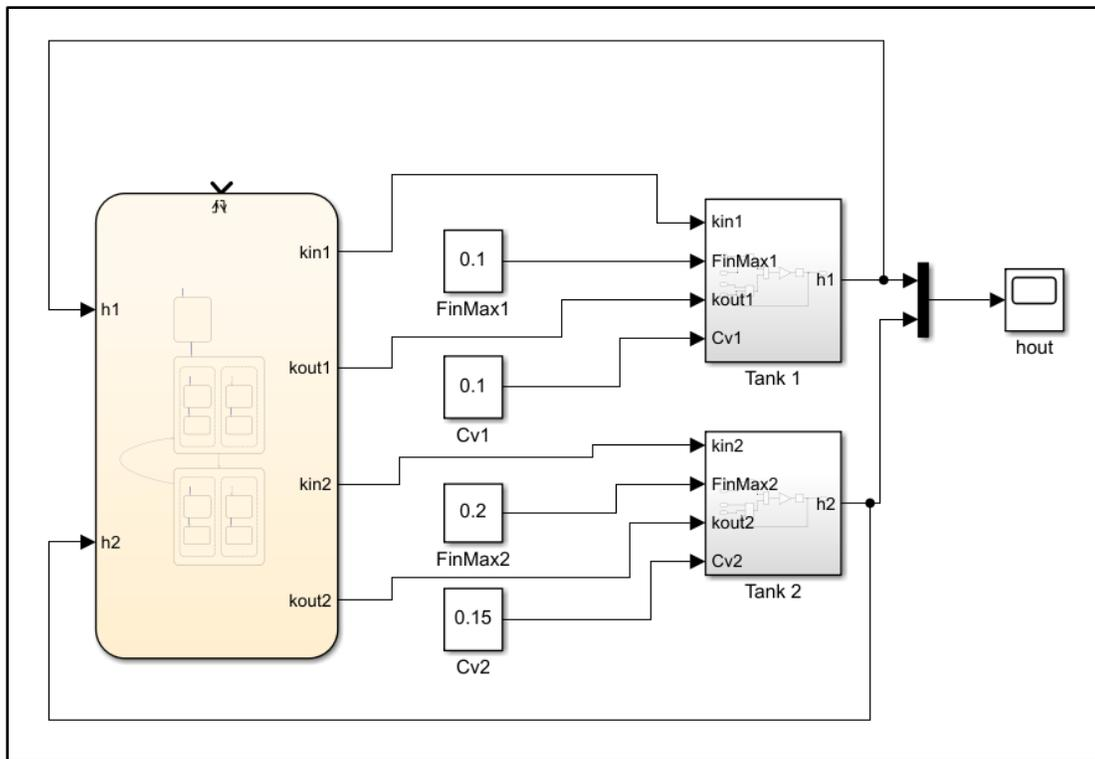

Figure 19. Linking chart input and output ports to other Simulink ports.
- c) Connect the input lines as well as the output lines (including those of h1 and h2) as shown in Figure 19.